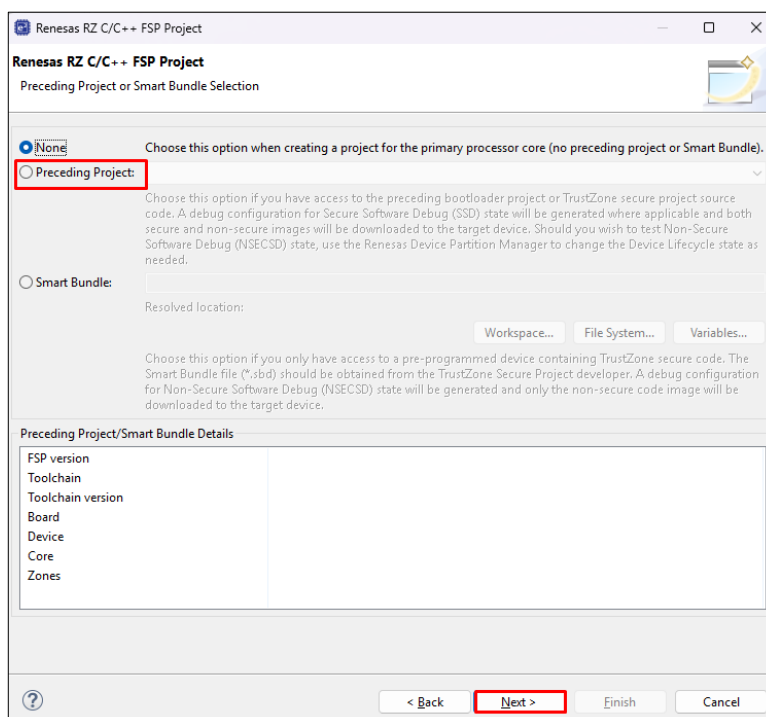

Figure 69. e² studio Project Configuration window (part 4)
2. Select your debugger configuration in the window. If it is not visible, then it must be created by clicking the New icon in the top left corner of the window (see red boxes in Figure 69). Once selected, the **Debug Configuration** window displays the **Debug configuration** for your **Blinky** project.